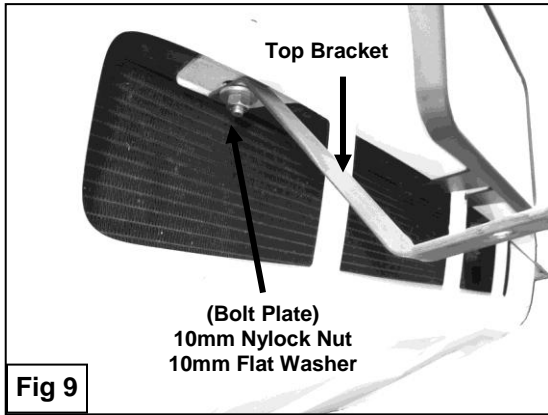

Fig 9
13. Partially hang Top Brackets to already installed Bolt Plates by using (2) 8mm Nylock Nuts and (2) 8mm Flat Washers (**Figure 9**). Do not tighten at this time.